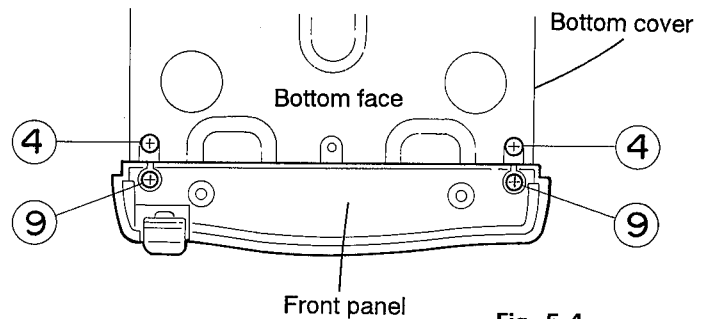

Fig. 5-4
(See Figs. 5-4 and 5)
■ Removing the recording amplifier and speaker terminal board (See Figs. 5-4~6)
1. Remove the two screws (6) retaining the speaker terminal P.C. board, and disconnect the connectors CN804 and CN803 respectively from the connectors CN801 and CN802 of the recording amplifier P.C. board. Remove the harness connected to the connector CN353.
3. From the bottom face side of the front panel, remove the two screws (9) retaining the door holder (See Fig. 5-4).